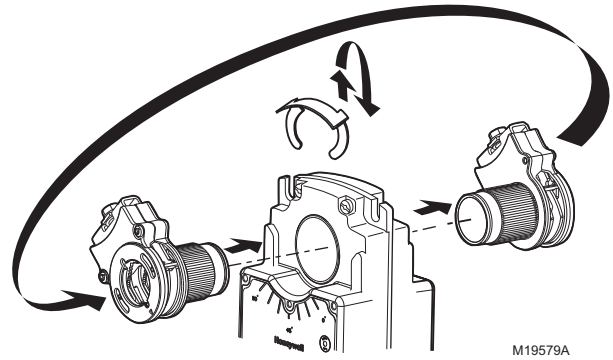

Fig. 38. Mounting shaft coupling to actuator opposite side
- (1) Reposition reverse/direct acting switch, or
- (2) Remount actuator on the bracket.
- d. Move the actuator coupling to the opposite side of the actuator, as displayed in Figure 38.